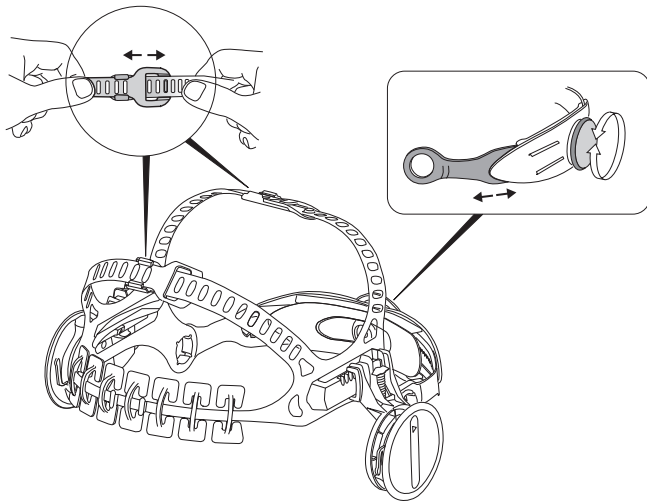
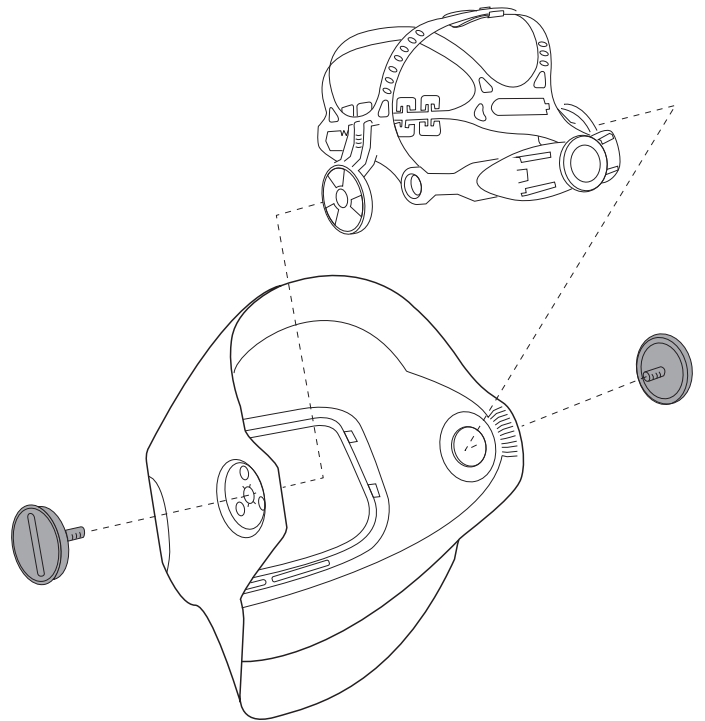

Fig. 3a
Fig. 3b
3. Turn the ratchet knob at the back of the suspension clockwise until the suspension feels snug but comfortable (Fig. 3a). Turn counterclockwise to loosen, if needed. The suspension fits head sizes from 50-64 cm (US hat sizes 6 3/8 to 8). Adjust the top parts of the suspension for added comfort (Fig. 3a). To make initial adjustment of the head suspension easier (and also for replacement) it may be removed from the welding helmet (Fig. 3b).